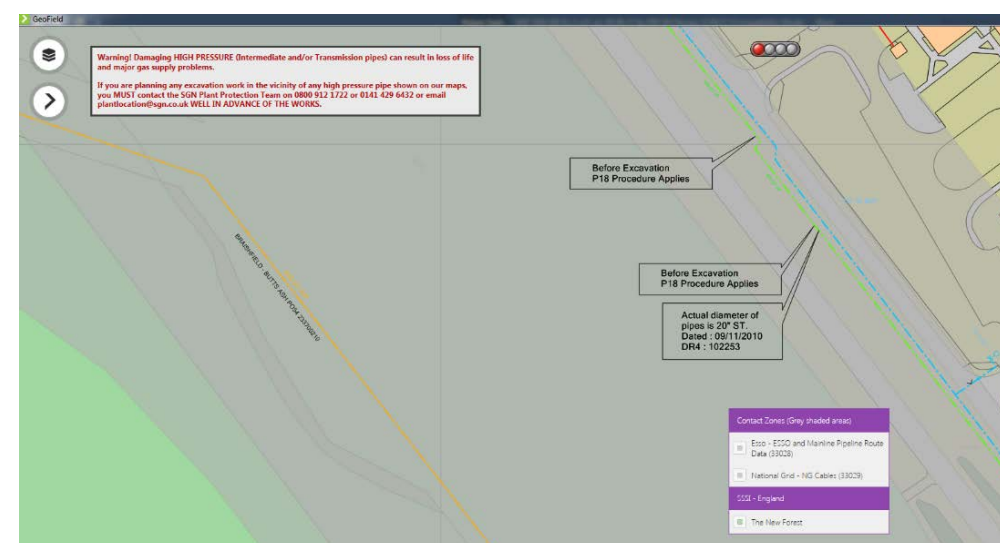

Figure 1- Shaded Bands on GeoField
2. They are usually shown within SGN mapping systems (GeoField) as a shaded band (see Figure 1).
4. You can also view plans of high voltage (HV) and extra high voltage (EHV) cables as a layer within GeoField by pressing the select map icon.